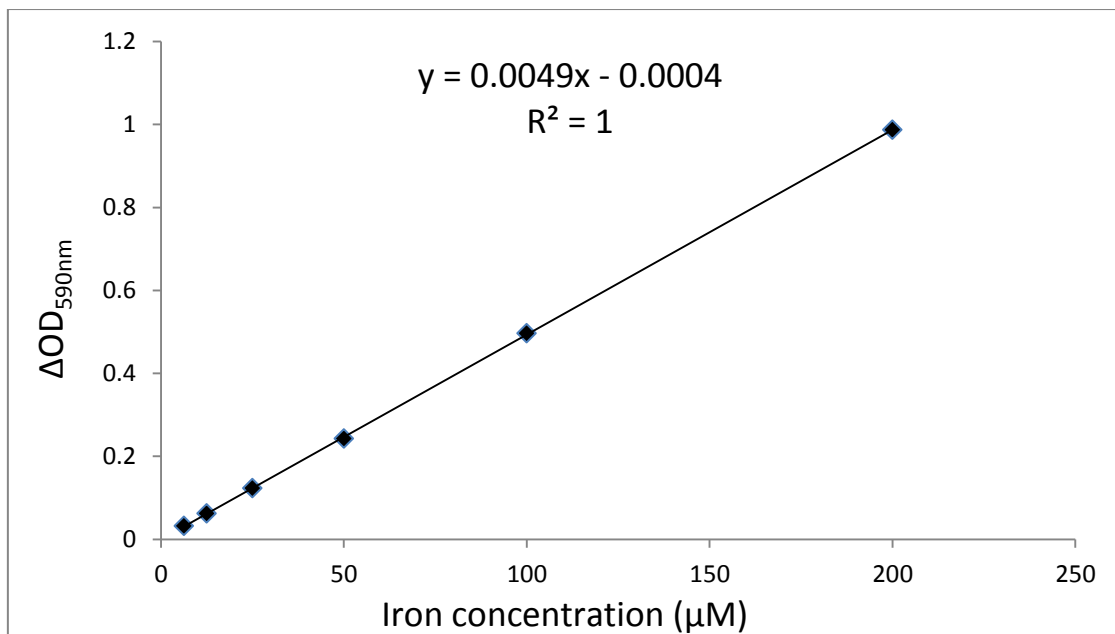

Figure 1. A typical iron standard curve measured by the ScienCell™ Iron Assay kit
Data from the Iron Assay kit measuring iron solutions with concentrations ranging from 6.25 to 200 μM show a linear relationship between $\text{OD}_{590\text{nm}}$ and iron concentration (Figure 1). Linear detection range is 1.56 to 500 μM in 96-well plate assay.
2. Based on the calibrated OD_{590nm} of the iron standard, make a standard curve by plotting ΔOD_{590nm} as a function of iron concentration (See Figure 1 for a typical standard curve). Determine the equation and R^2 value of the trend line.